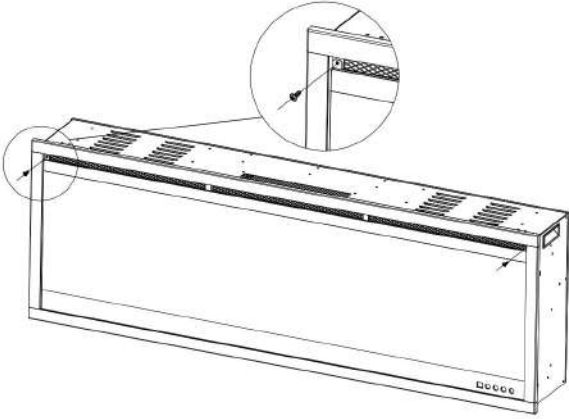

Fig. 1-1
- Take off the two screws from the side of glass panel. **Fig.1-1**